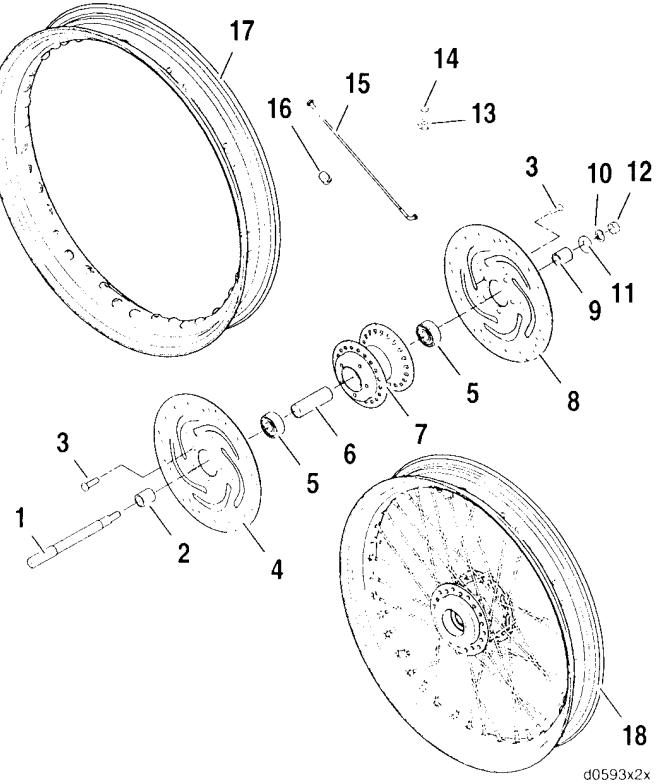

Figure 2-7. Laced Front Wheel
1. See Figure 2-7. Remove spacers (2, 9) from left and right sides.
- a. On left side of wheel, remove five screws (3) to detach left brake disc (8).
- b. On FXDX models, remove five screws (3) to remove right brake disc (4).
2. See Figure 2-7. If necessary, install brake disc(s) in their original positions. Verify that brake disc(s) is clean. Tighten fasteners to 16-24 ft-lbs (21.7-32.5 Nm).
- a. On left side of wheel, install five new screws (3) to attach left brake disc (8).
- b. On FXDX/FXDXT models, install five new screws (3) to attach right brake disc (4).